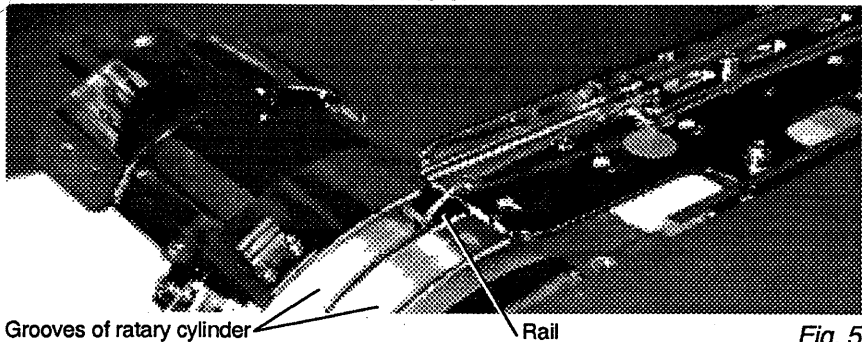

Fig. 5
9. As shown in Fig. 5, move rail bracket fully to the right side or left side to confirm that all rails are in grooves in front and back of rotary cylinder.